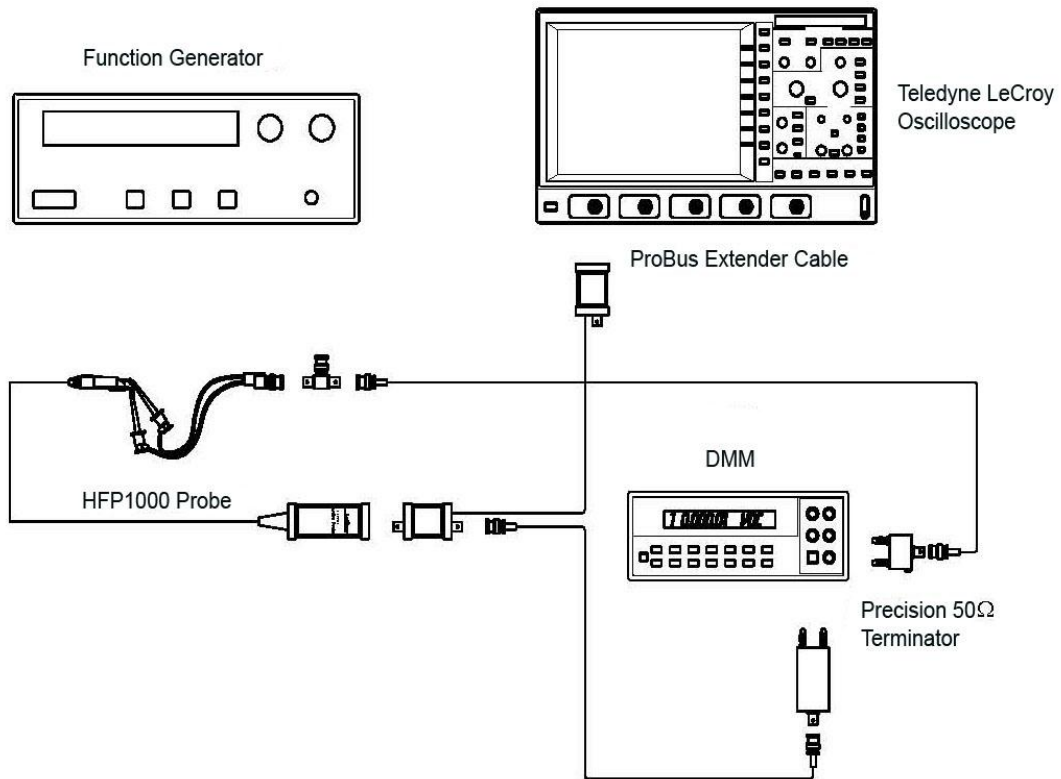

Figure 5 Attenuation Accuracy Test Setup
1. Connect the BNC end of the BNC to mini-grabber cable to a female end of the BNC tee adapter. (Refer to Figure 5 Attenuation Accuracy Test Setup)